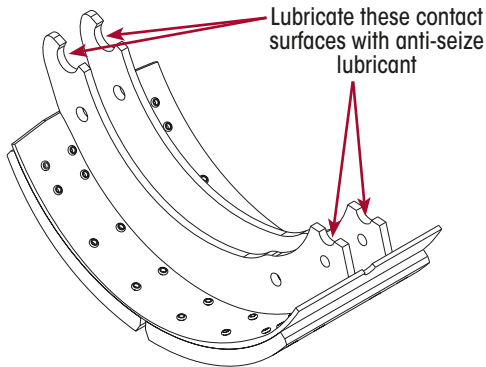

Figure 51: Brake Shoe Contact Surface Lubricant Points
1. Pre-lubricate brake shoe points as indicated in Figure 51.